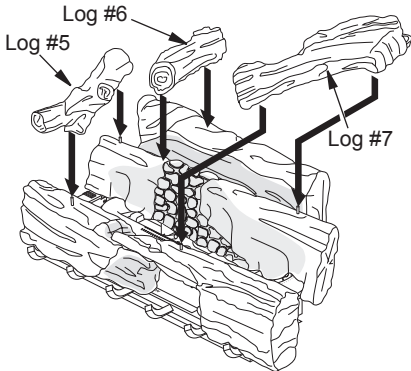

Figure 24 - Placement of Crossover Logs (Logs #5, #6, and #7)
5. Place left crossover log (log #5) on pegs of log #2 and #3 (see Figure 24). Place
middle crossover log (log #6) on pegs of log #1 and #2 (see Figure 24). Place right crossover log (log #7) on pegs of log #2 and #4 (see Figure 24).